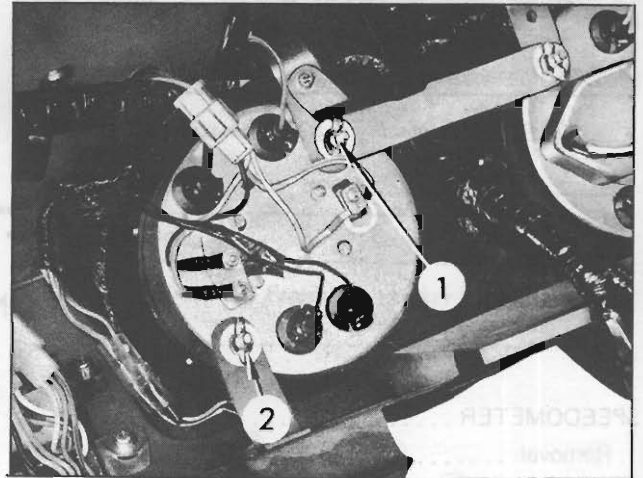

Fig. BE-15
- c. See Figure BE-15 for details of the speedometer support bracket and mounting bracket.